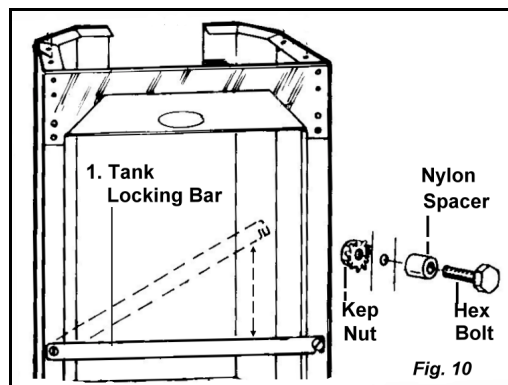

Fig. 10
Step 1: Connect the Tank Locking Bar (Fig. 10)